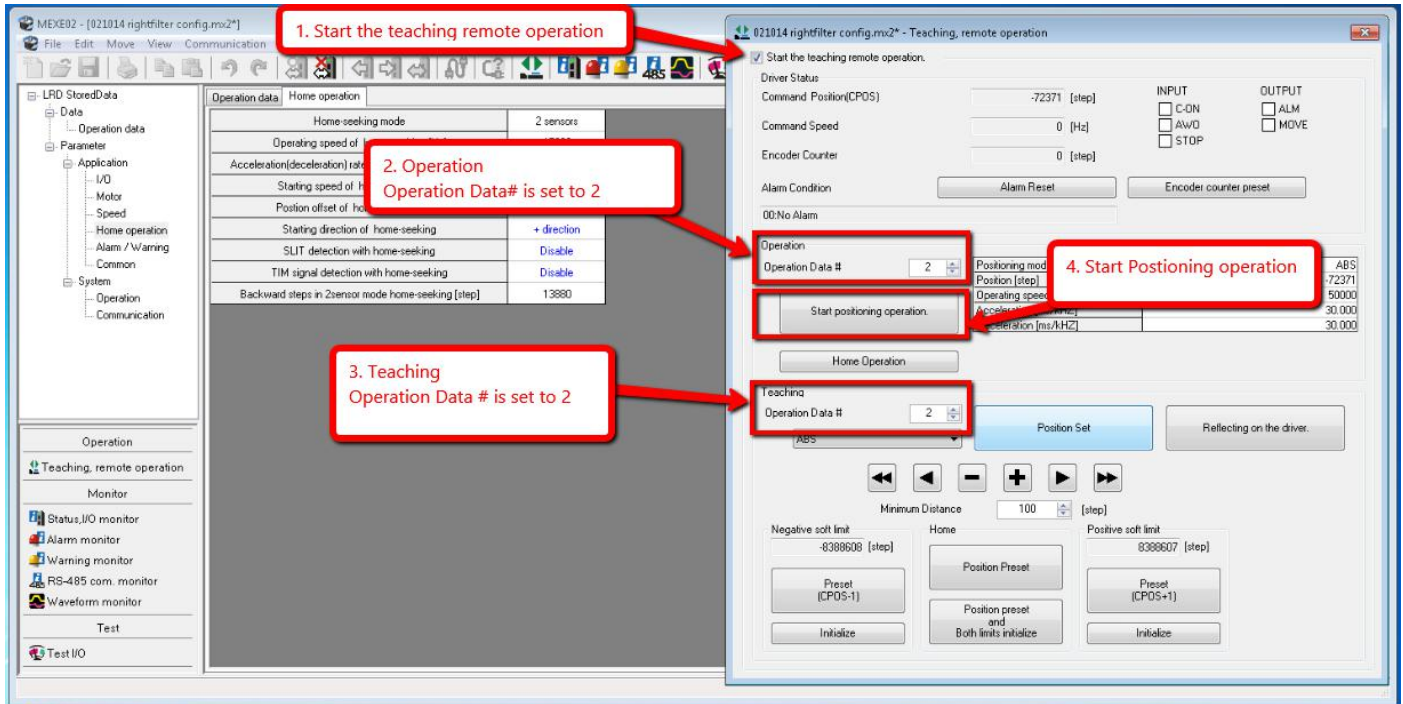

Figure 35 11μm micron setting
- Start the teaching, remote operation (Figure 35)
- Select the Operation Data # is set to 2 (Figure 35)
- Teaching Operation Data # is set to 2 (Figure 35)
- Start the Start Positioning operation (Figure 35)